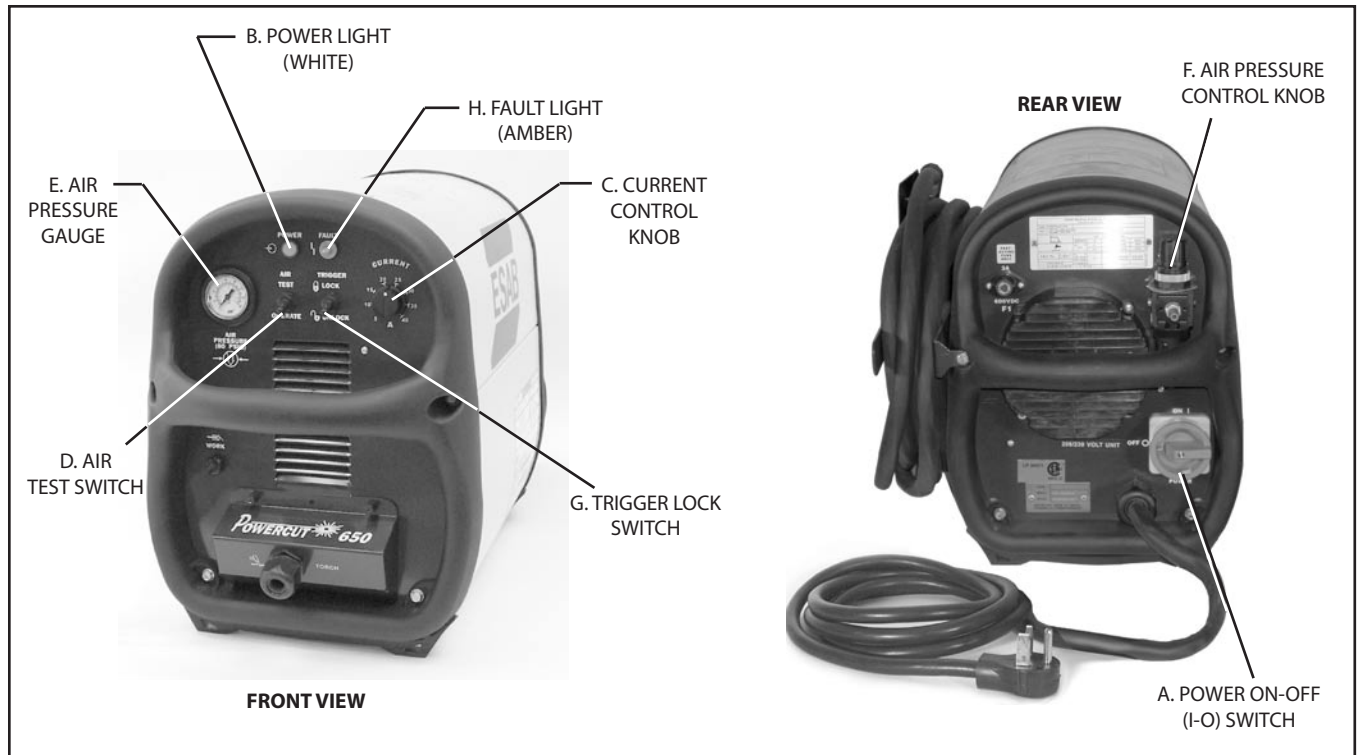

Figure 4.1. Powercut 650 Controls
4.0 POWERCUT 650 CONTROLS (FIGURE 4.1)